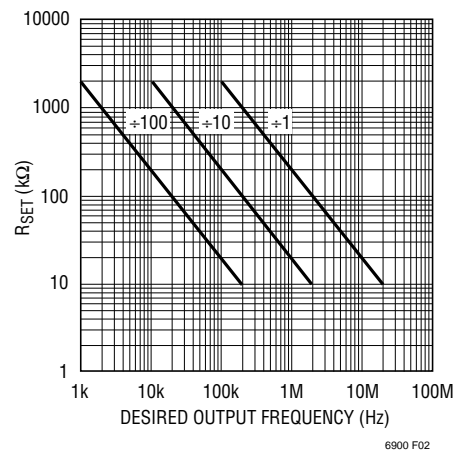

Figure 2. RSET vs Desired Output Frequency
0.5V to select ÷1. This is the highest frequency range, with the master output frequency passed directly to OUT. The DIV pin may be floated or driven to midsupply to select ÷10, the intermediate frequency range. The lowest frequency range, ÷100, is selected by tying DIV to V+ or driving it to within 0.4V of V+. Figure 2 shows the relationship between RSET, divider setting and output frequency, including the overlapping frequency ranges near 100kHz and 1MHz.